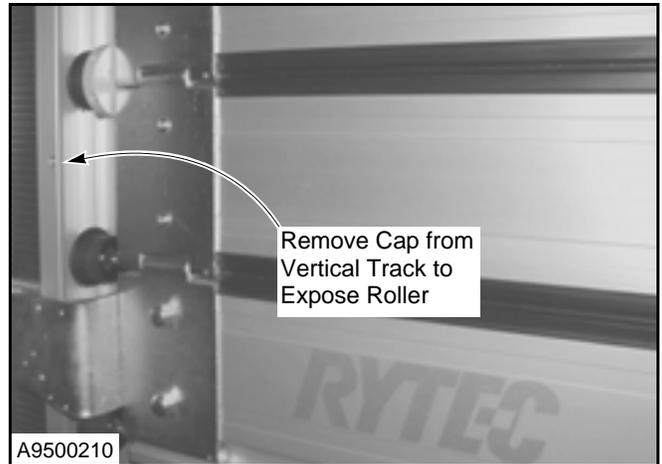

Figure 74
5. Remove the vertical door track cap that is covering the roller to be removed. The cap is held in place with TORX® head screws. (See Figure 74.)